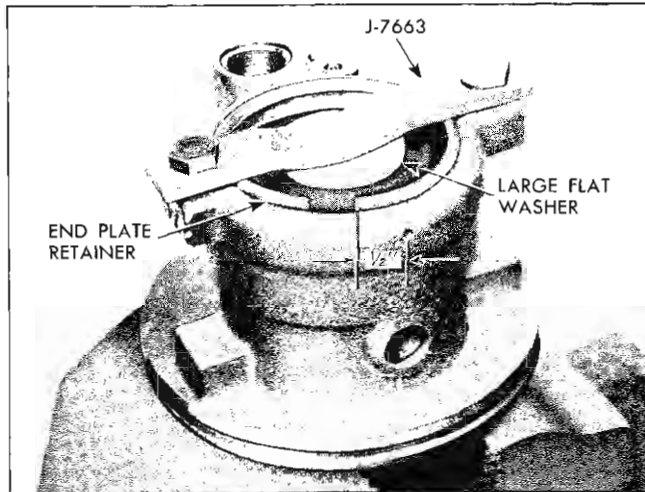

Fig. 9A-48 Installing End Plate Using J-7663
9. Lubricate outside diameter and edge with radius of pressure plate with vaseline (to insure against damaging "O" ring) and install on dowel pins with ported face toward the pump ring, see Fig. 9A-47. Apply pressure to outer edge only to seat pressure plate. **DO NOT** press or hammer on the center of the pressure plate as this will score the face of the plate towards the pump rotor causing permanent distortion with resulting pump failure. (Pressure plate will travel about  $\frac{1}{16}$ " to seat.)